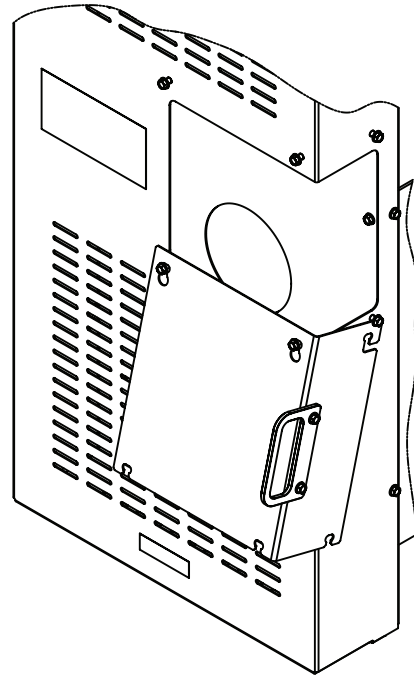

Figure 8
2. Slide the inspection cover up to align the larger holes in the slots with the screw heads and then slide the inspection cover away from the front cover. To temporarily store the inspection cover, hang the inspection cover on the lower screws. Refer to Figure 8.